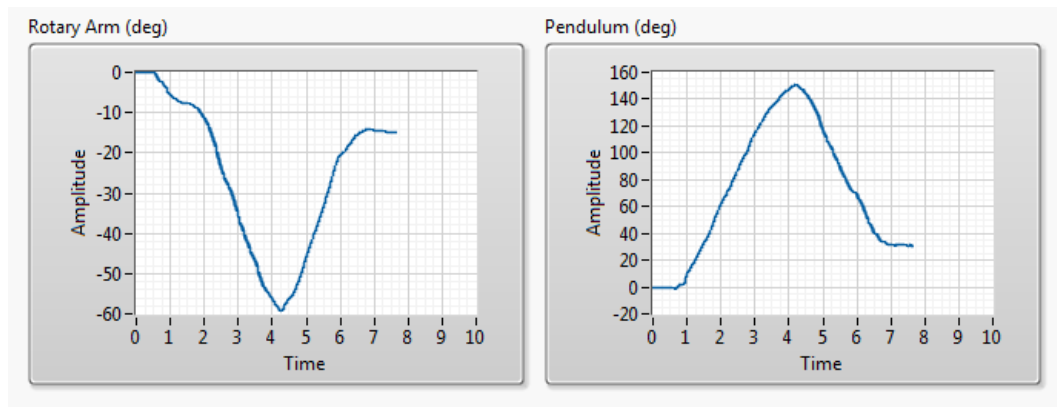

Figure 2.2: Measured rotary arm and pendulum angles
- Rotate the rotary arm and pendulum counter-clockwise and examine the response on the waveform charts. Example responses are shown in Figure 2.2. Do the measured angles follow the modeling conventions given in Section 1?